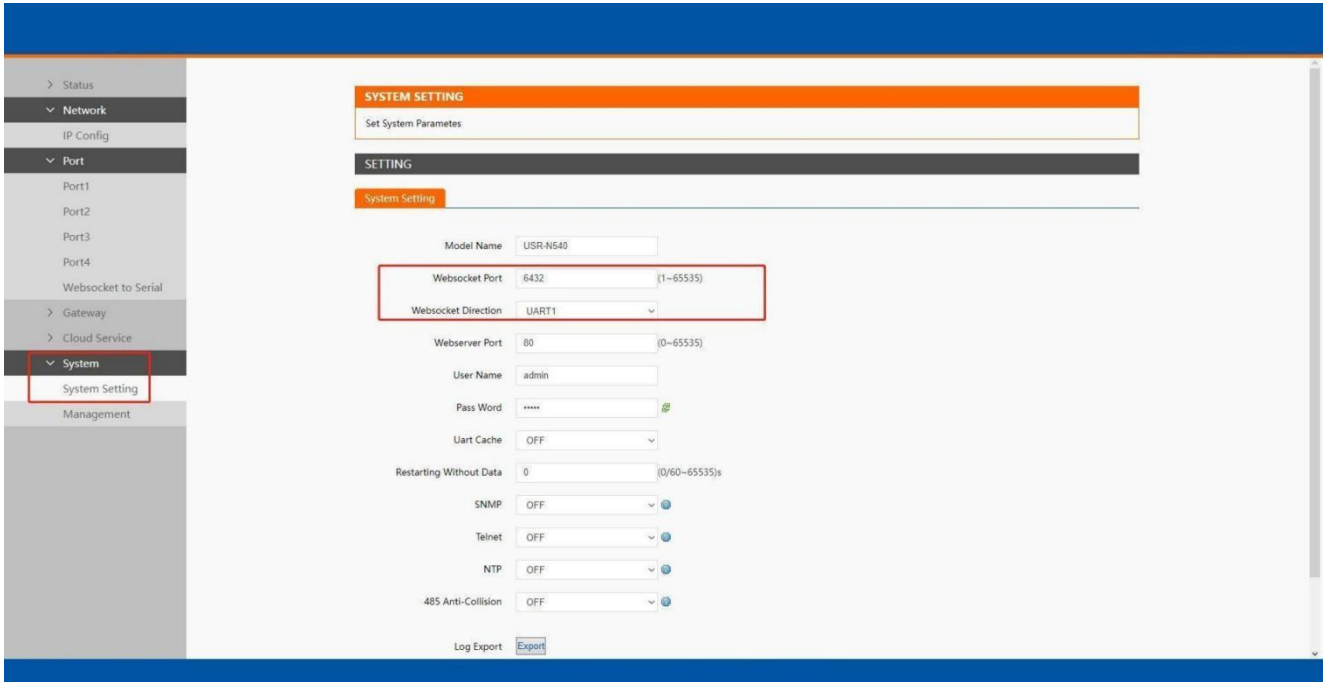

Fig.48 Websocket server setting
1. Click on the “system setting” tab on the menu frame on the left side of Web UI to go to system setting page as shown in Fig.48.